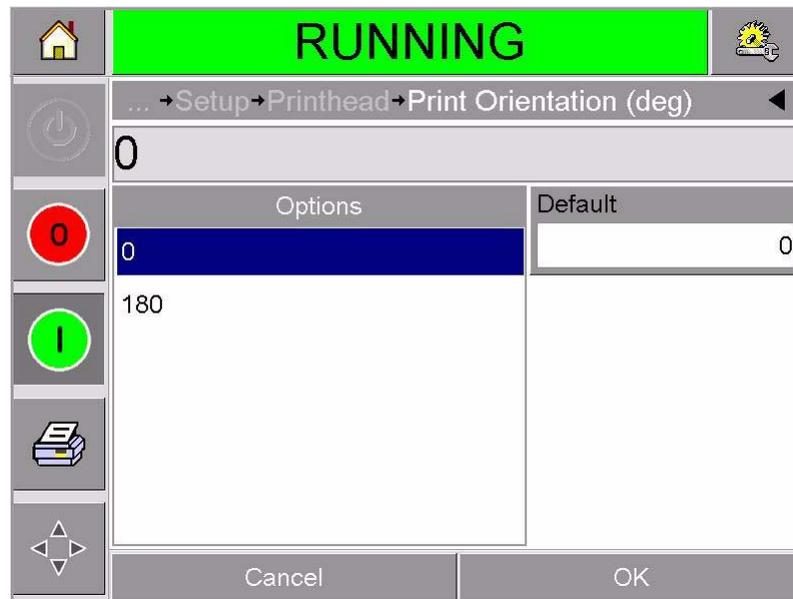

Figure 4-15: Print Orientation Settings
- 4 Touch the Print Orientation bar to open the print orientation settings page (Figure 4-15).